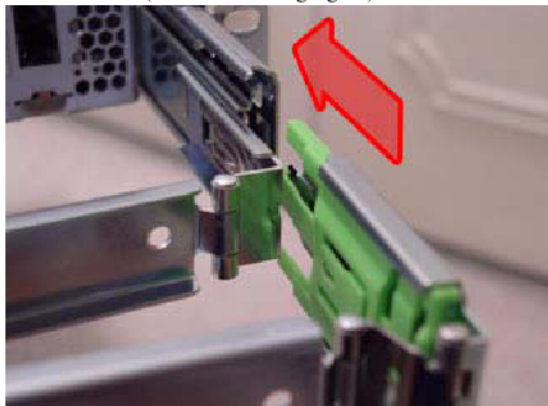

FIGURE 16 Right-Side CMA Slide Rail Connector
7. Insert the right CMA slide rail connector into the right slide rail until the connector locks into place with an audible *click* (FIGURE 16).